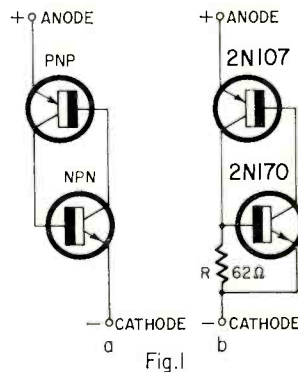

Fig. 1
Many articles have stated that the four-layer diode corresponds to a p-n-p and n-p-n transistor connected in series in a regenerative loop, as in Fig. 1-a. And people have asked immediately, "Why can't I hook up two inexpensive transistors to get the same operation?" Most who have tried such a *transistor duo* have gotten nothing but straight dc conduction, no bistable operation. The secret to foolproofing the arrangement is to connect a small resistance (R) between the base and emitter of the n-p-n
transistor, as in Fig. 1-b. This allows the p-n-p collector current to develop a signal voltage drop across R, which is high enough to drive the n-p-n vigorously.